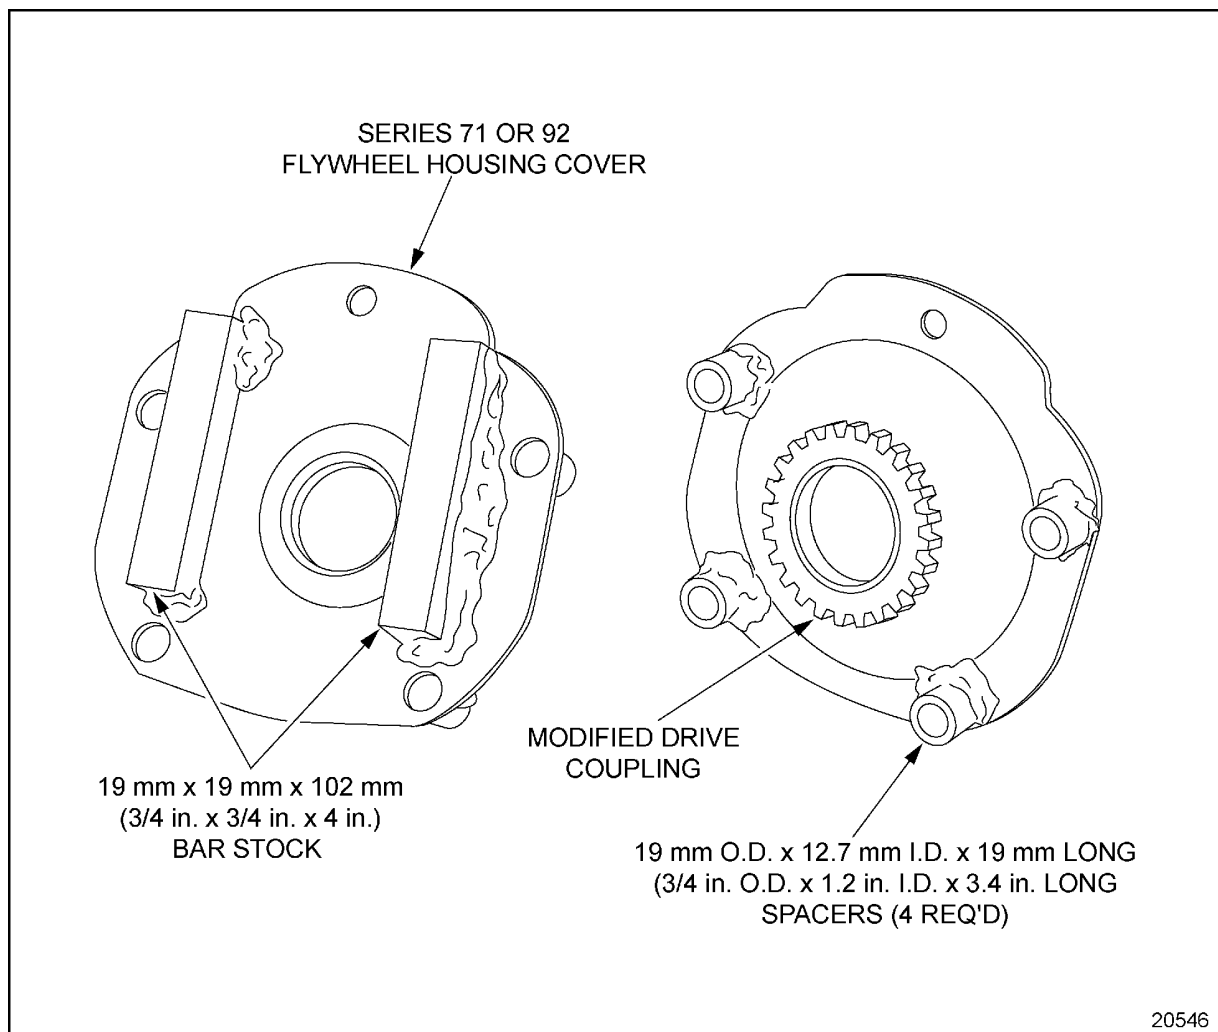
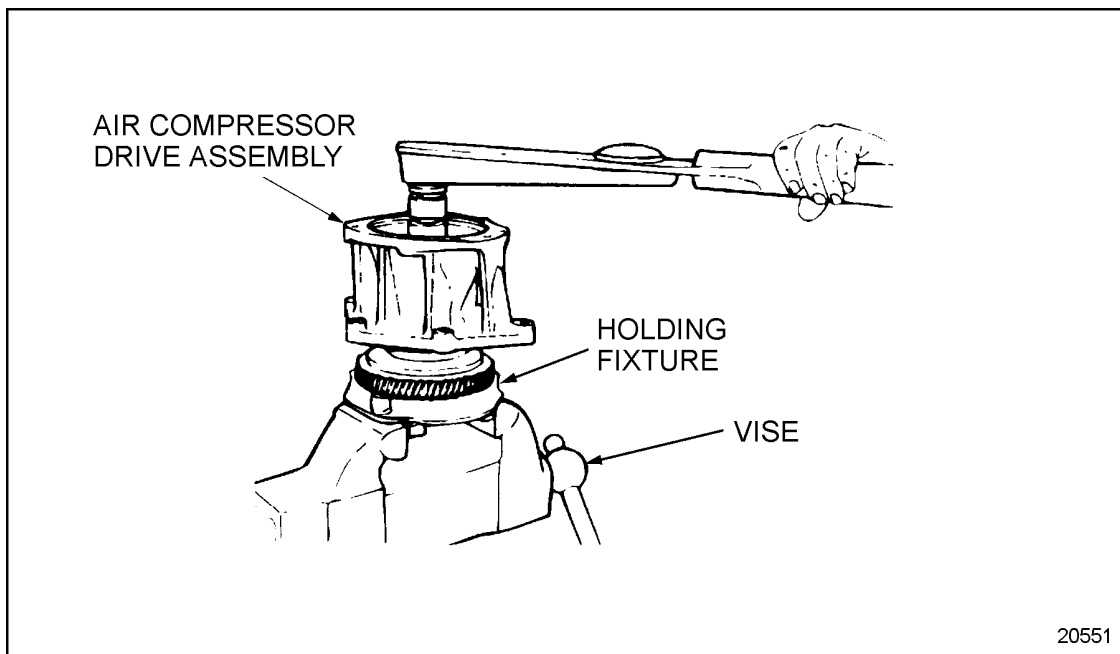

Figure 10-7 Holding Fixture
Figure 10-13 Air Compressor Drive Hub Disassembly
To properly position the cover and coupling with the drive hub, four collars, 19 mm O.D. and 12.7 mm I.D., 19 mm long (3/4 in. O.D. and 1/2 in. I.D., 3/4 in. long), and two pieces of bar stock 19 mm x 19 mm x 102 mm (3/4 in. x 3/4 in. x 4 in.) must be fabricated and welded to the flywheel housing cover at the positions shown in the next illustration. See Figure 10-7.
1. Secure the holding fixture, see Figure 10-7, in a suitable vise with the drive coupling facing up. See Figure 10-13.